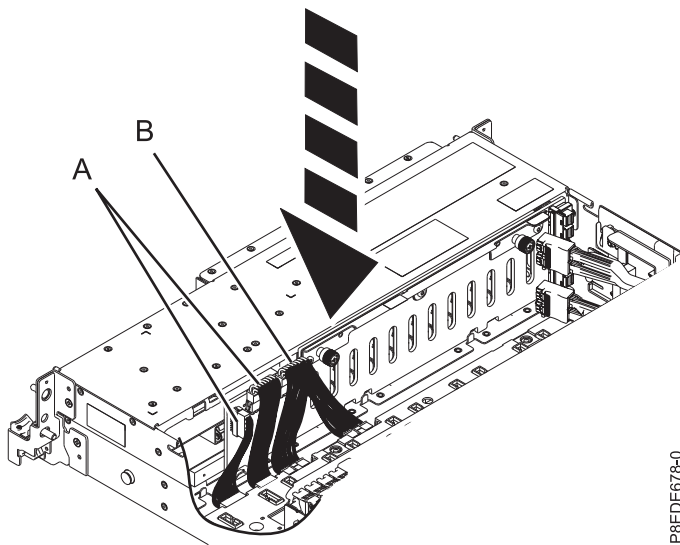

Figure 96. Reconnecting the power, signal, and control panel cables
32. Reconnect the signal and control panel cables (A), and the power Y cable (B) to the disk drive backplane and the system backplane as shown in Figure 96.